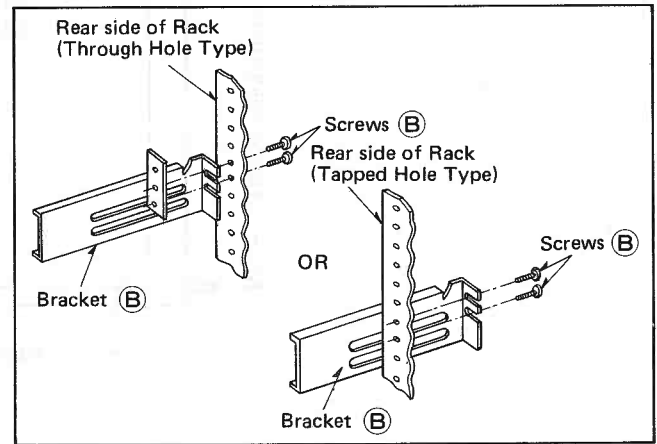

Fig. 4
4. Mount and secure both the right and left bracket (B) on the rack two screws (B) each. (Fig. 4)